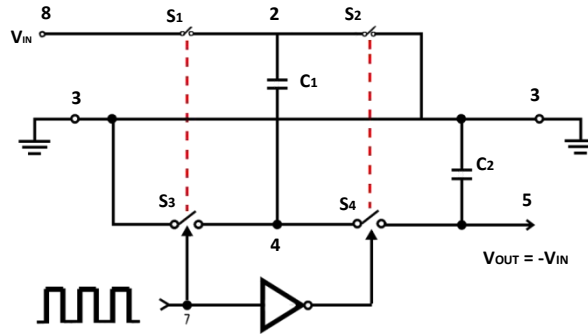
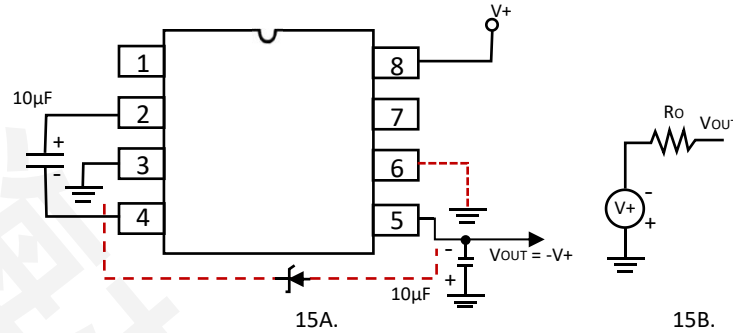
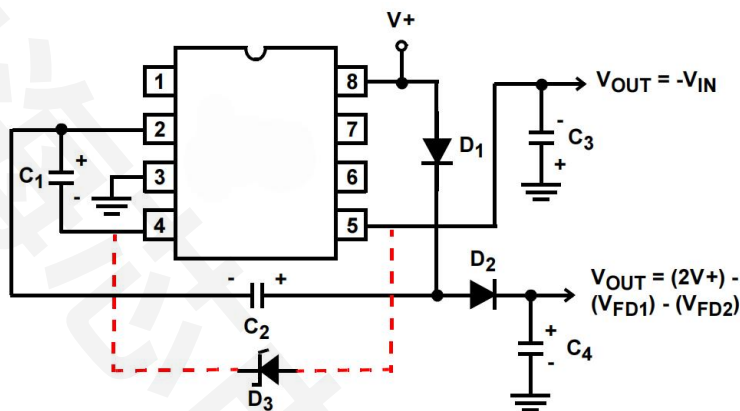
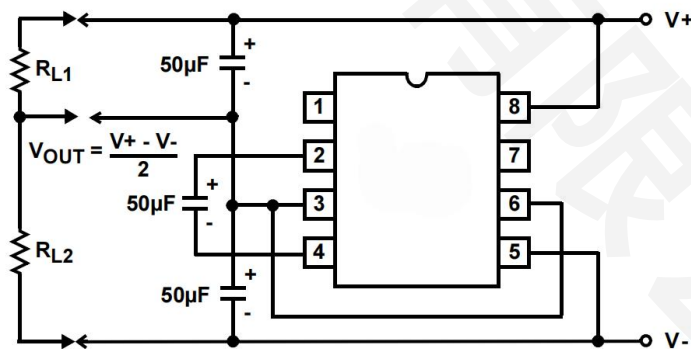

FIGURE 14. IDEALIZED NEGATIVE VOLTAGE CONVERTER
FIGURE 15. SIMPLE NEGATIVE CONVERTER AND ITS OUTPUT EQUIVALENT
FIGURE 19. COMBINED NEGATIVE VOLTAGE CONVERTER AND POSITIVE DOUBLER
FIGURE 20. SPLITTING A SUPPLY IN HALF
The ICL7660SCBAZ-T-HX contain all the necessary circuitry to complete a negative voltage converter, with the exception of two external capacitors, which may be inexpensive $10\mu F$ polarized electrolytic types. The mode of operation of the device may best be understood by considering Figure 14, which shows an idealized negative voltage converter. Capacitor C_1 is charged to a voltage, V_+ , for the half cycle, when switches S_1 and S_3 are closed. (Note: Switches S_2 and S_4 are open during this half cycle). During the second half cycle of operation, switches S_2 and S_4 are closed, with S_1 and S_3 open, thereby shifting capacitor C_1 to C_2 such that the voltage on C_2 is exactly V_+ , assuming ideal switches and no load on C_2 . The ICL7660SCBAZ-T-HX approach this ideal situation more closely than existing non-mechanical circuits.
In the ICL7660SCBAZ-T-HX, the four switches of Figure 14 are MOS power switches; S1 is a P-Channel device; and S2, S3 and S4 are N-Channel devices. The main difficulty with this approach is that in integrating the switches, the substrates of S3 and S4 must always remain reverse biased with respect to their sources, but not so much as to degrade their “ON” resistances. In addition, at circuit start-up, and under output short circuit conditions ($V_{OUT} = V_+$), the output voltage must be sensed and the substrate bias adjusted accordingly. Failure to accomplish this would result in high power losses and probable device latch-up.
where V1 and V2 are the voltages on C1 during the pump and transfer cycles. If the impedances of C1 and C2 are relatively high at the pump frequency (see Figure 14) compared to the value of RL, there will be a substantial difference in the voltages, V1 and V2. Therefore it is not only desirable to make C2 as large as possible to eliminate output voltage ripple, but also to employ a correspondingly large value for C1 in order to achieve maximum efficiency of operation.
The majority of applications will undoubtedly utilize the ICL7660SCBAZ-T-HX for generation of negative supply voltages. Figure 15 shows typical connections to provide a negative supply where a positive supply of +1.5V to +12V is available. Keep in mind that pin 6 (LV) is tied to the supply negative (GND) for supply voltage below 3.5V.
The output characteristics of the circuit in Figure 15 can be approximated by an ideal voltage source in series with a resistance as shown in Figure 15B. The voltage source has a value of $-(V+)$. The output impedance (R_O) is a function of the ON resistance of the internal MOS switches (shown in Figure 14), the switching frequency, the value of C_1 and C_2 , and the ESR (equivalent series resistance) of C_1 and C_2 . A good first order approximation for R_O is shown in Equation 2:
Figure 19 combines the functions shown in Figure 15 and Figure 18 to provide negative voltage conversion and positive voltage doubling simultaneously. This approach would be suitable, for example, for generating +9V and -5V from an existing +5V supply. In this instance, capacitors C1 and C3 perform the pump and reservoir functions, respectively, for negative voltage generation, while capacitors C2 and C4 are pump and reservoir, respectively, for the doubled positive voltage. There is a penalty in this configuration which combines both functions, however, in that the source impedances of the generated supplies will be somewhat higher, due to the finite impedance of the common charge pump driver at pin 2 of the device.
The bidirectional characteristics can also be used to split a high supply in half, as shown in Figure 20. The combined load will be evenly shared between the two sides, and a high value resistor to the LV pin ensures start-up. Because the switches share the load in parallel, the output impedance is much lower than in the standard circuits, and higher currents can be drawn from the device. By using this circuit, and then the circuit of Figure 15, +15V can be converted, via +7.5 and -7.5, to a nominal -15V, although with rather high series output resistance ($\sim 250\Omega$).